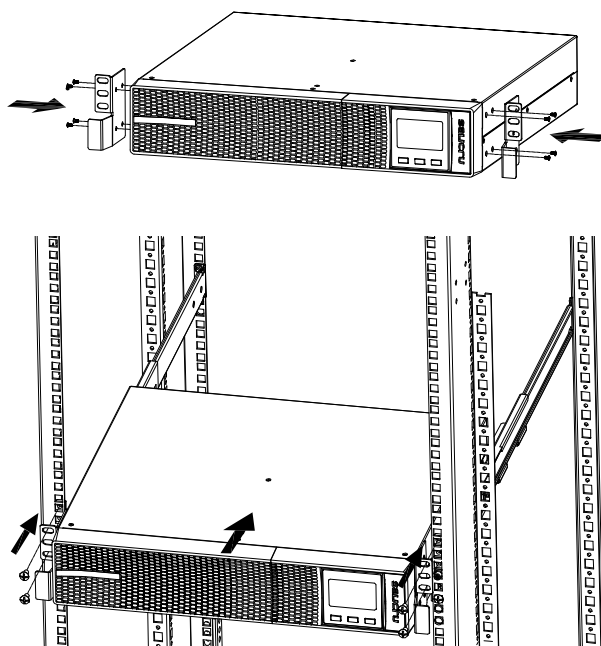
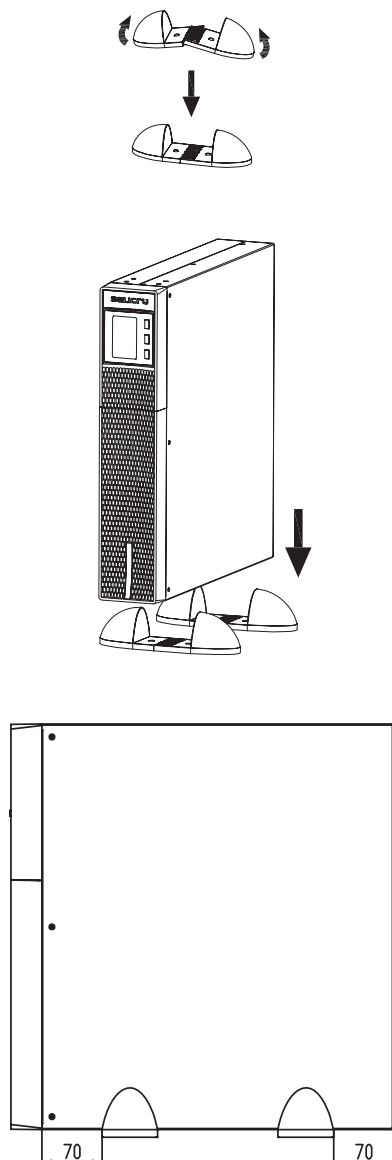
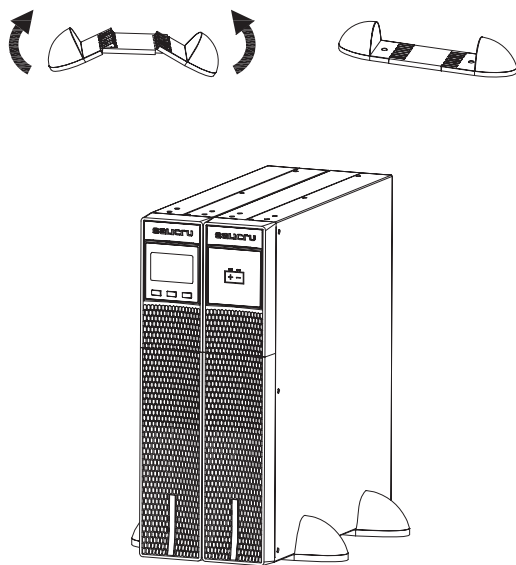

Fig. 4. Rack-type mounting in a 19" cabinet.
Fig. 6. Vertical tower-type mounting.
Fig. 8. Vertically mounted tower-type model with backup extension (battery module).
- Fig.4..Fig.8 show, by way of example, illustrations of a device with or without battery module. These illustrations provide help and guidance on the steps to follow, but the instructions are not intended to refer to a single model, although, in practice, the actions to be carried out are always the same for all of them.
- Proceed as follows (see Fig. 4):
- Place the UPS upright between the two bases at a distance of 70 mm from each end (see Fig.6).
- Place the UPS and battery module upright between the two bases (see Fig.8) and at a distance of 70 mm from each end, as shown in Fig.6.